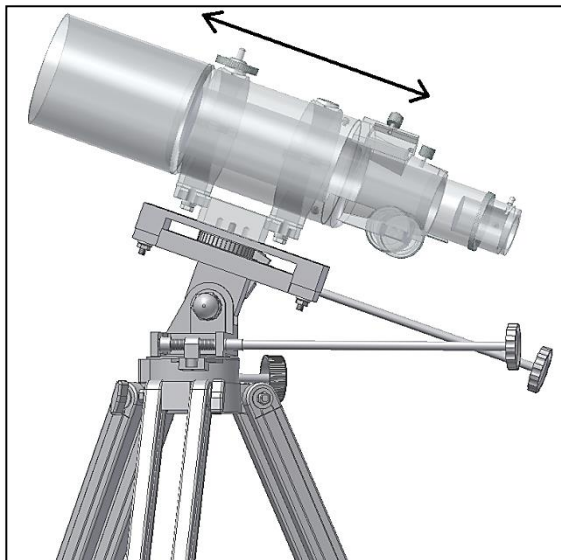

Figure 17. Balancing the telescope.
2.3. Balance. It is important to balance the telescope on the telescope platform. Balancing prevents the telescope from tilting along the altitude axis (figure 17). An unbalanced telescope also causes undesired wearing on the mount and makes it harder to coarse adjust the telescope.